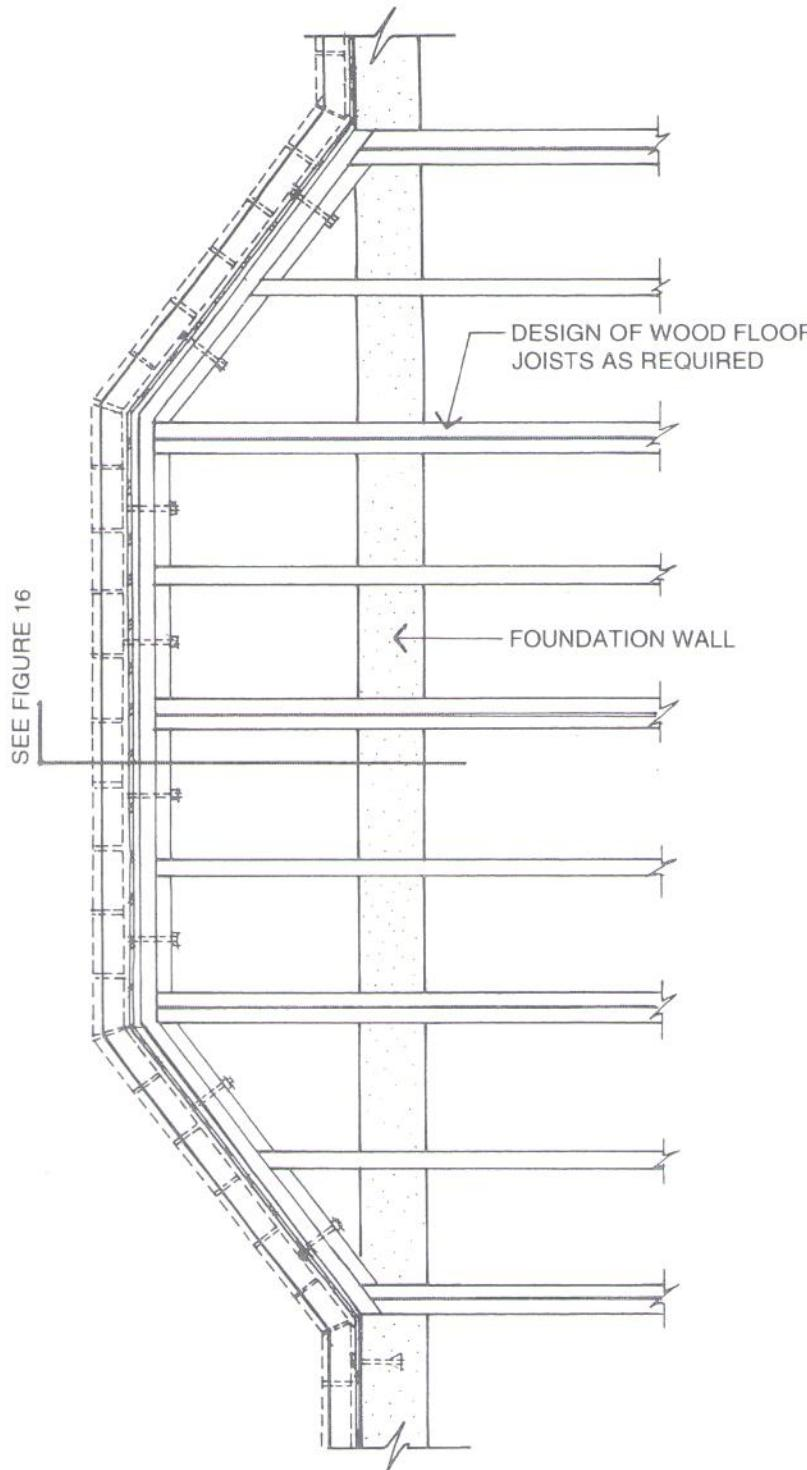

Figure 15 Brick shelf angle support detail for bay window
- Figure 15 Brick shelf angle support detail for bay window